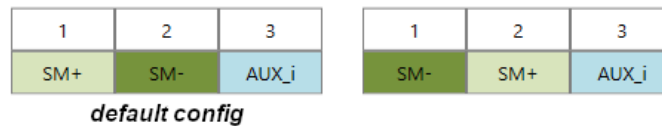

Figure 26. SM+/SM- Exchange
**Note:** SM+ and SM- sequence can be exchanged yielding to the same result (Figure 26).